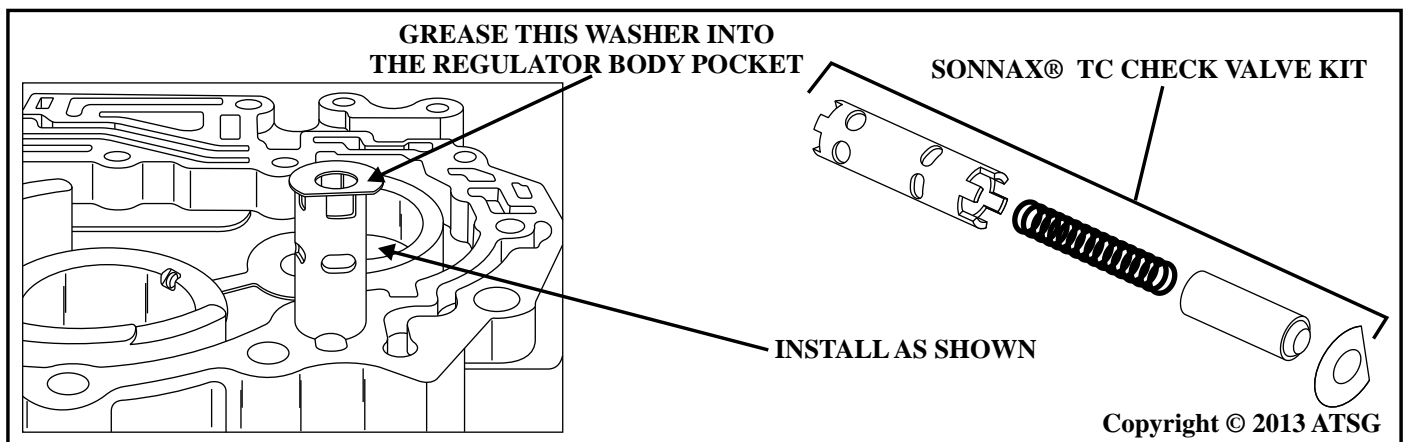

Figure 5
3. The use of the Sonnax® TC Check Valve, Figure 5.